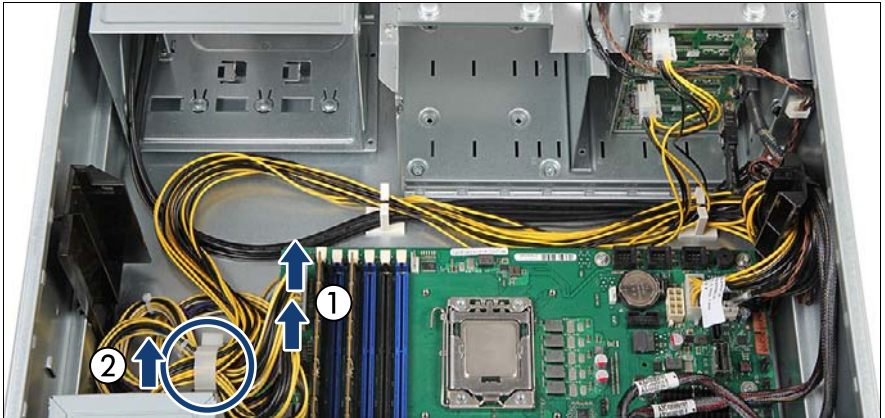

Figure 37: Disconnecting power cables
- ▶ Run the power cable through the cable clamp (see figure 37).